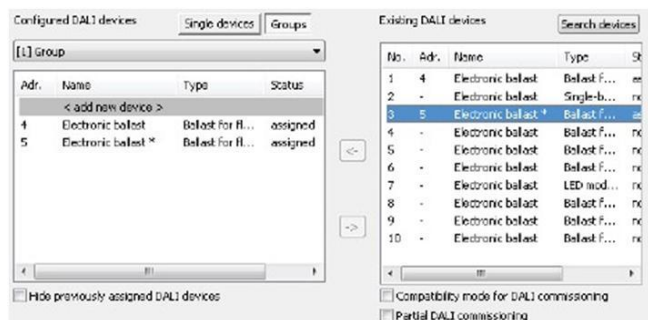

Figure 69: Operating device assigned to a group
- The assigned operating devices remain visible in the right-hand section and also appear in the left-hand section for the selected group.(Figure 69). In the right-hand area, these electronic ballasts receive the short address of the assignment.